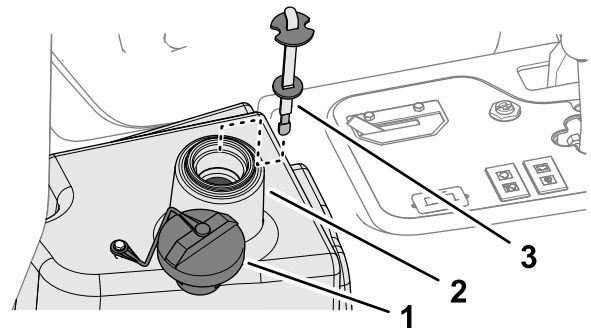

Figure 90
4. Fill the reservoir (Figure 90) with approximately 22.7 L (6 US gallons) of hydraulic fluid; refer to Hydraulic Fluid Specifications \(page 59\).